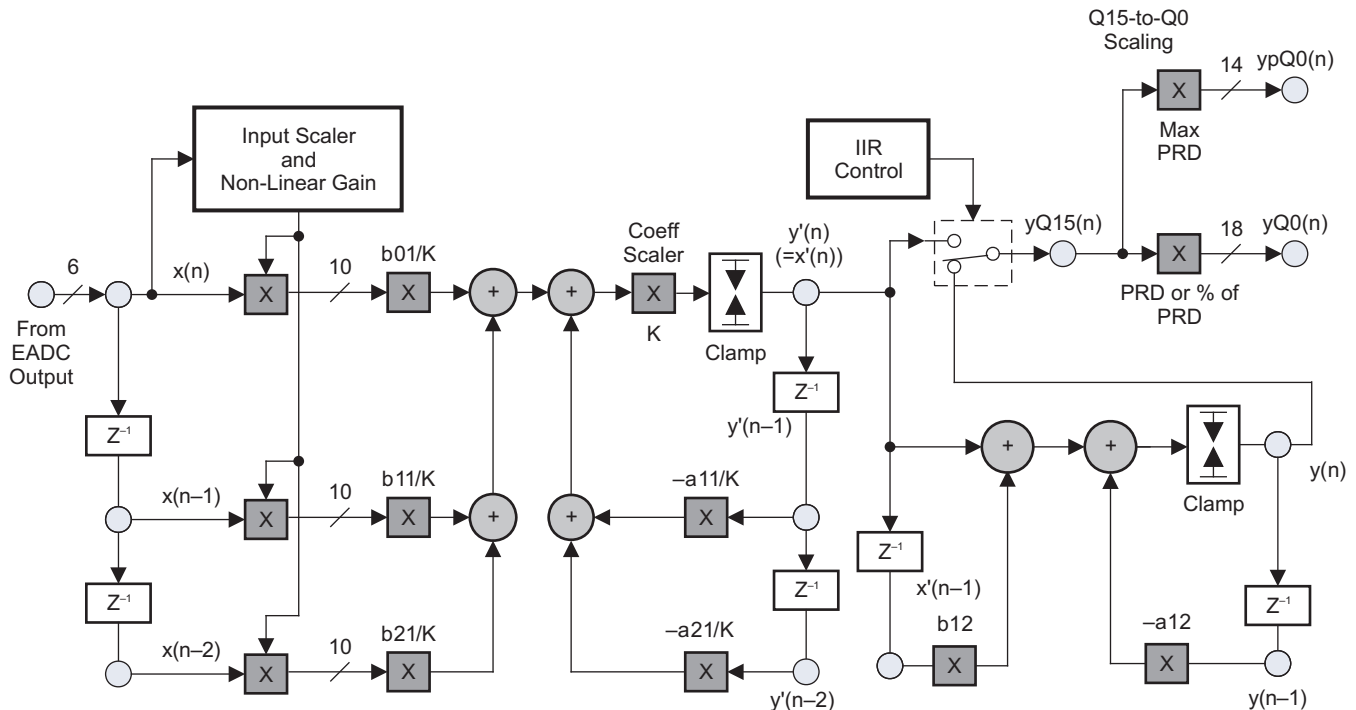

Figure 5. Compensator Architecture
The architecture of the digital compensator in the UCD30xx system is shown in Figure 5. The compensator is a digital filter consisting of a second-order infinite-impulse-response (IIR) filter section cascaded with a first-order IIR filter section. The function of the CLA is to operate on the 6-bit output from the error ADC (EADC) and generate a command output for: (1) a fixed-frequency DPWM duty-ratio control (duty-ratio control mode), or (2) a fixed-duty-ratio DPWM frequency control (resonant mode), or (3) a fixed-frequency DPWM phase-shift control of a slave DPWM with respect to a master DPWM (phase-shift control mode).
The filter mathematics calculates a per-unit command (duty-ratio control or frequency control) output  $[Y_{Q15}(n)]$  between 0 and 1. In duty-ratio-control mode, this command output is then multiplied by the user-programmable DPWM switching period (PRD) to determine the duty ratio of the DPWM output. The 18-bit commanded duty ratio output  $[Y_{Q0}(n)]$  from the CLA is made up as a 14.4 word. The upper 14 bits specify the low-resolution DPWM clock (PCLK, 250 MHz or 4 ns) counts, and the lower 4 bits specify the high-resolution clock phase, allowing a best-case DPWM resolution of 250 ps. In resonant mode, the per-unit command output  $[Y_{Q15}(n)]$  is multiplied by the user-programmable maximum switching period (Max PRD) to determine the switching period of the DPWM output. This commanded switching period output  $[Y_{PQ0}(n)]$  is a 14-bit word. In this case, the CLA also generates a fixed-duty-ratio output  $[Y_{Q0}(n)]$  that is based on a user-programmable percentage of the maximum switching period. In Figure 5 this programmable percentage is indicated as % of PRD.